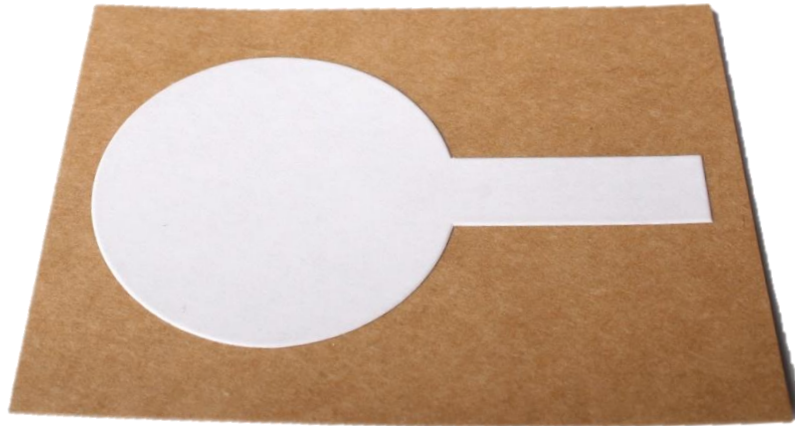

Figure 6: Double-sided adhesive pad
- 2) To attach the Surface Microphone using the double-sided adhesive pad (see Figure 6), peel off the protective paper on one side of the pad to expose its adhesive surface, apply firmly to the underside of the microphone, then peel off the protective paper on the other side of the pad to expose the other adhesive surface, and press it onto the clean surface.